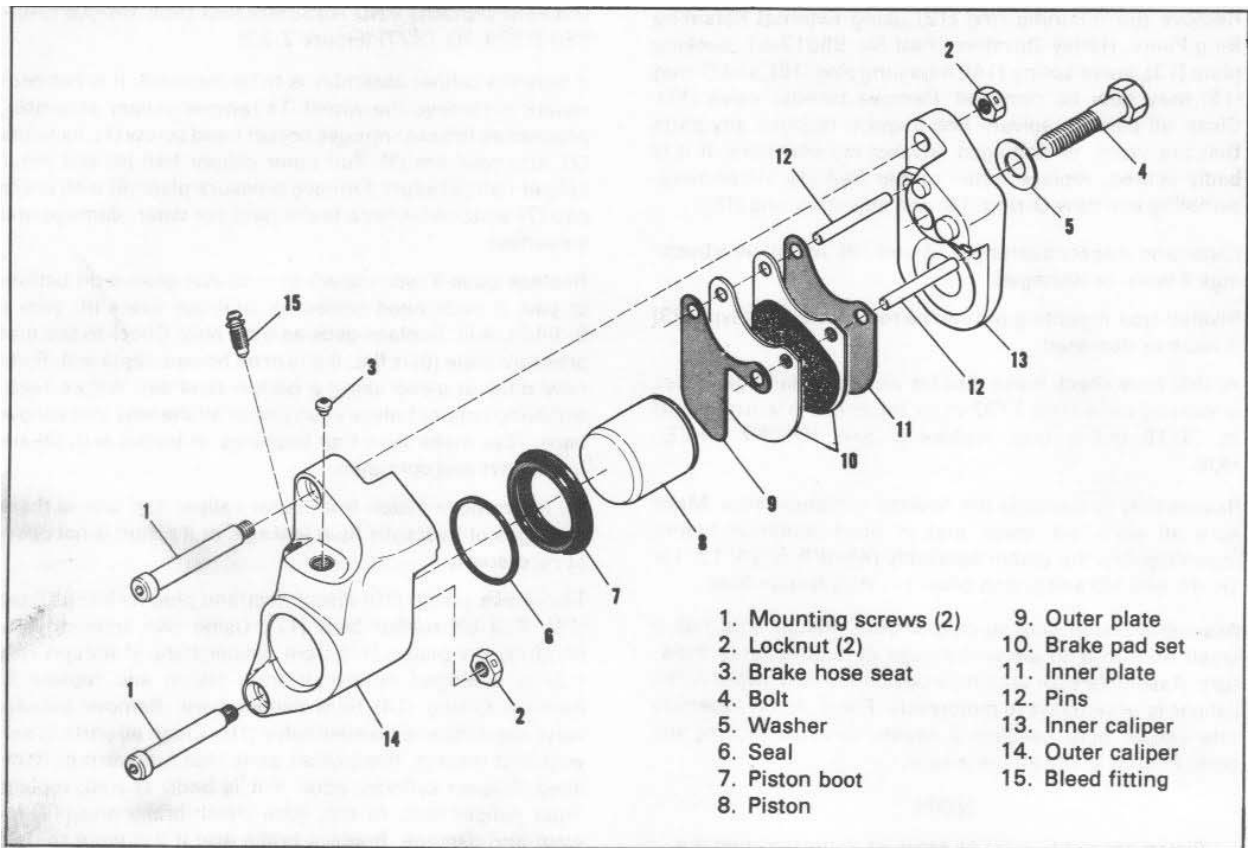

Figure 2-63. Front Brake Caliper (Left) (1978)
DISASSEMBLING AND ASSEMBLING DISC BRAKE CALIPER - 1978 (Figure 2-63)
Mount the caliper assembly to the front fork with two mounting screws (1) and locknuts (2). Torque screws to 115 to 120 in-lbs. Tighten bolt (4, Figure 2-63) to 45 to 50 ft-lbs torque.